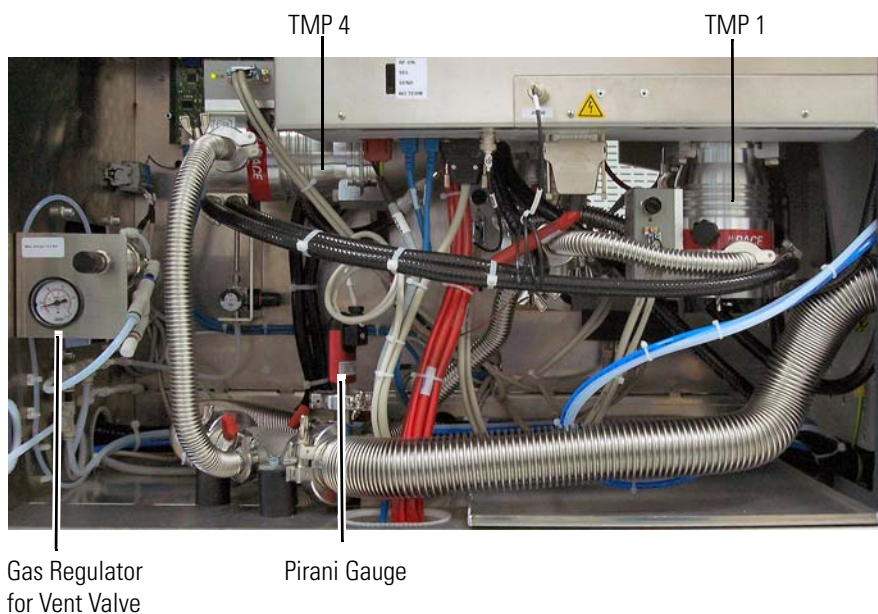
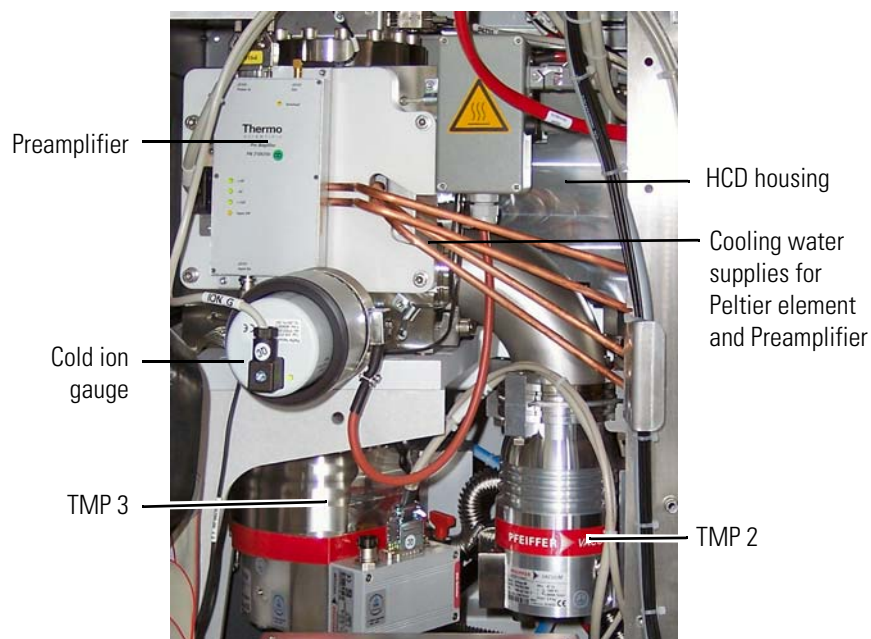

Figure 1-23. Vacuum components on the left instrument side
Figure 1-24. Vacuum components on the right instrument side
All parts of the system except for the Orbitrap analyzer are mounted in a aluminum vacuum chamber that is evacuated by a 60 L/s turbomolecular pump (TMP 1, see Figure 1-23). The rotary vane pumps of the linear trap (see page 1-33) provide the forevacuum for this pump. This chamber is bolted to a stainless steel welded UHV chamber, which accommodates Orbitrap analyzer, lenses, and corresponding electrical connections.
The UHV chamber is evacuated down to 10⁻⁸ mbar pressure range by a 60 L/s UHV turbomolecular pump (*TMP 2*, see Figure 1-24 on page 1-32). The Orbitrap analyzer itself is separated from the UHV chamber by differential apertures and is evacuated down to 10⁻¹⁰ mbar by a 260 L/s turbomolecular pump (*TMP 3*, see Figure 1-24). The HCD housing is evacuated by a 60 L/s UHV turbomolecular pump (*TMP 4*, see Figure 1-23) that is mounted to its bottom via an elbow. This dedicated pump for the HCD cell protects the low pressure cell of the linear trap from gas overload.
- The forevacuum of the Orbitrap Velos Pro mass spectrometer is monitored by an Active Pirani gauge (TPR 280, manufacturer: Pfeiffer) connected to the forevacuum line. See Figure 1-23 on page 1-31.
- The high vacuum of the Orbitrap Velos Pro mass spectrometer is monitored by a Cold Ion Gauge (IKR 270, manufacturer: Pfeiffer) connected to the UHV chamber. See Figure 1-24 on page 1-32. Because the gauge would be contaminated at higher pressures, it is turned on only when the forevacuum has fallen below a safety threshold ($<10^{-2}$ mbar).